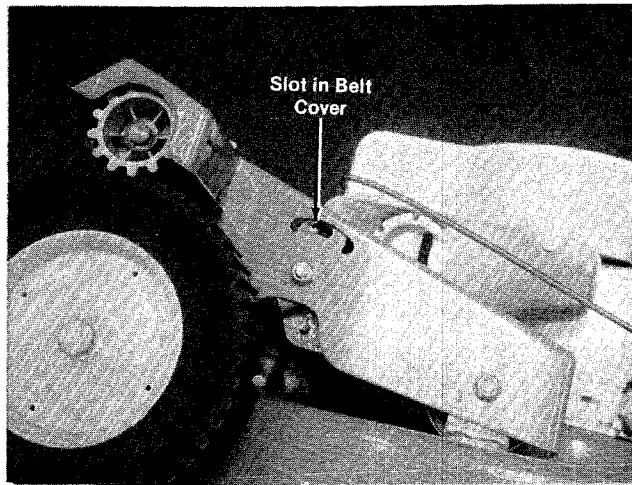

FIGURE 8
1. Place the hooked end of engagement rod in slot on belt cover. See figures 8 and 9.